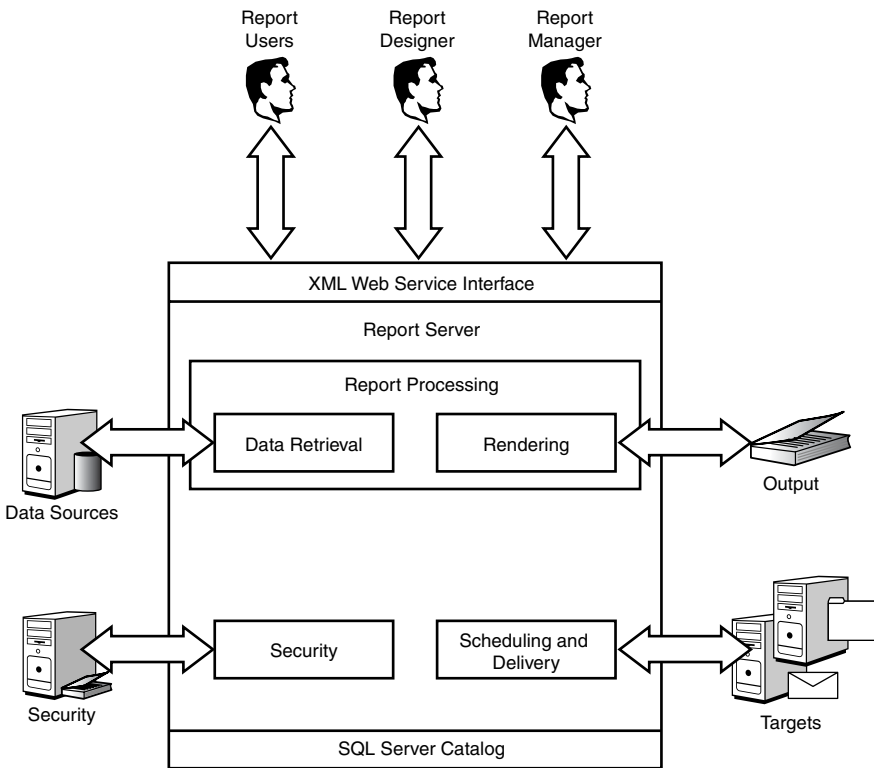

FIGURE 21.1 MOM 2005 Reporting components.
Microsoft uses several different technologies to greatly enhance MOM 2005's reporting functionality. The current version of MOM Reporting is noticeably superior to its predecessor (MOM 2000) by providing significant out-of-the-box reporting functionality enhancements and advanced customization capabilities, with almost limitless expandability. MOM 2005 Reporting uses the SQL Server Reporting Services (SSRS) engine, and Figure 21.1 shows the relationship between the different components used with MOM 2005 Reporting and SSRS.
- ▶ **MOM reporting database**—The MOM reporting database, referred to as “Data Sources” in Figure 21.1, is the foundation of MOM Reporting. This database stores a historical copy of the same data that can be found in the MOM operations database.